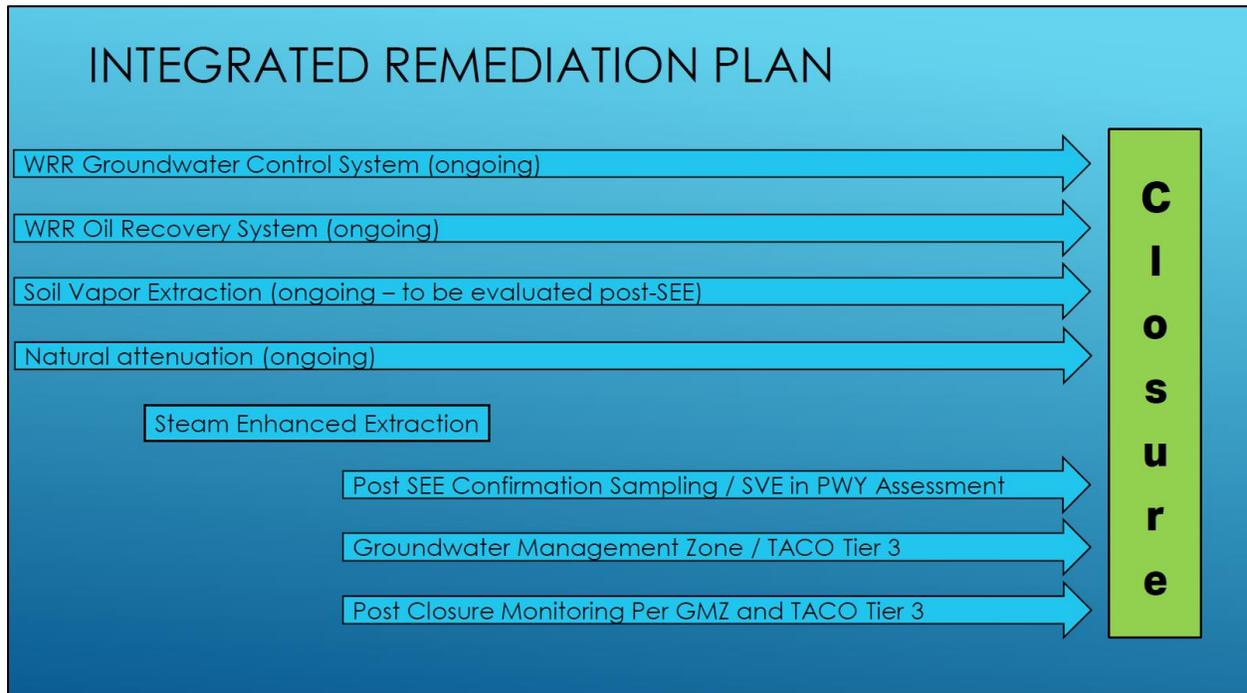

Figure 2 – Integrated Remediation Plan
- Figure 2 – Integrated Remediation Plan
Figure 2 below depicts the site’s integrated remediation plan. SEE is intended accelerate remediation in the PWY area to complement other ongoing remediation pathways.